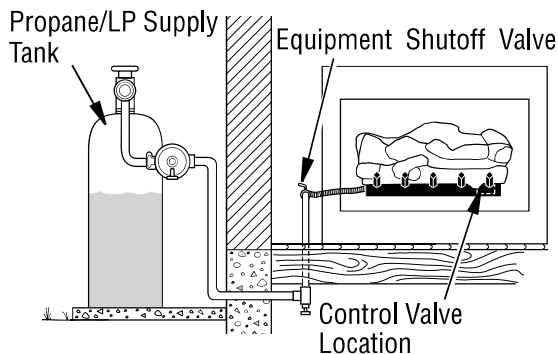
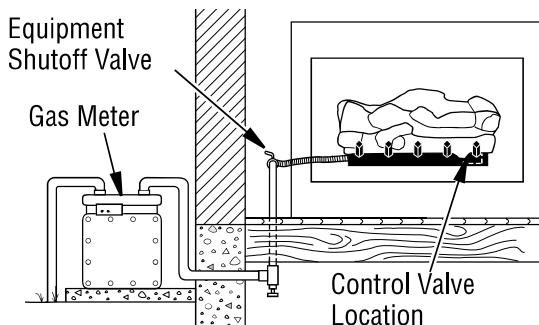

Figure 15 - Checking Gas Joints (Propane/LP Only)
Figure 16 - Checking Gas Joints (Natural Gas Only)
3. Check all joints from gas meter to equipment shutoff valve for natural gas or propane/LP supply to equipment shutoff valve for propane/LP (*see Figure 15 or Figure 16*). Apply noncorrosive leak detection fluid to all joints. Bubbles forming show a leak.
4. Check all joints from gas meter to equipment shutoff valve for natural gas or propane/LP supply to equipment shutoff valve for propane/LP (see **Figure 15**, or **Figure 16**). Apply noncorrosive leak detection fluid to all joints. Bubbles forming show a leak.